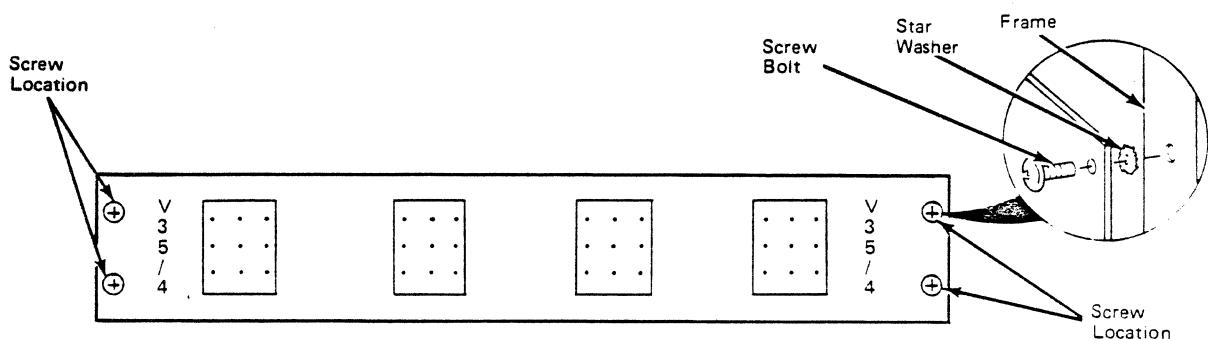

Figure 9-13. Screw Locations for V.35 I/O Panels
- c. Remove the four screws that secure the I/O panel to the I/O panel frame (Figure 9-13).